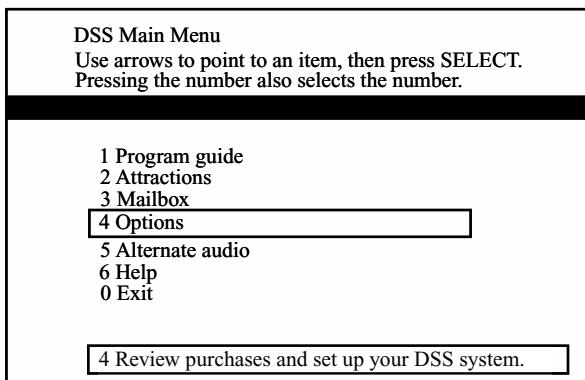

FIGURE 6-12 A DBS main menu that is now in the **options mode**. (Courtesy of Thomson Multimedia.)
- Select “Options” from the “DBS Main Menu.” See Fig. 6-12.